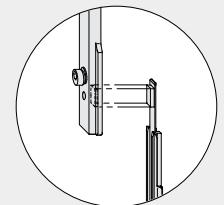

Figure 1
- > **G** Couple corner drive VSU/BSO (36) with locking bolt (35). Make sure positioning of coupling piece for corner drive VSU/BSO (36) is correct (Figure 1).
- 1) Processing dimensions for handle LM (1a) see Figure 1